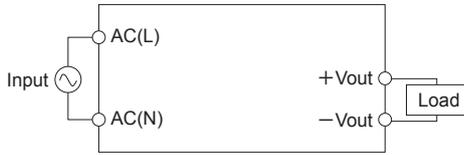

Fig.1.1 Connection for standard use
■To use TEPS series, connection shown in Fig.1.1.